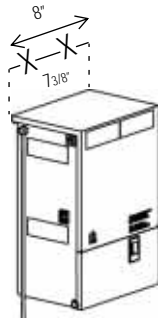

fig. 1: Mounting the ON Series e Wall-mount UPS
Mount the power unit and battery enclosure(s) on a 3/4 inch plywood (minimum) backboard. Use the enclosed four (4) 1/4 inch x 1 inch slotted-hex, washer-head wood screws. (See fig. 1)
**NOTE:** When mounting the UPS and external battery enclosure(s), make sure that all connections can be made easily without twisting, pinching or stressing the cables or connectors. Two (2) inches of clearance are necessary if the battery enclosure(s) is mounted below the UPS. Five (5) inches are needed if the battery enclosure(s) is mounted on either side of the UPS. Due to the rising characteristics of heat, mounting the battery enclosure(s) above the UPS is not recommended.